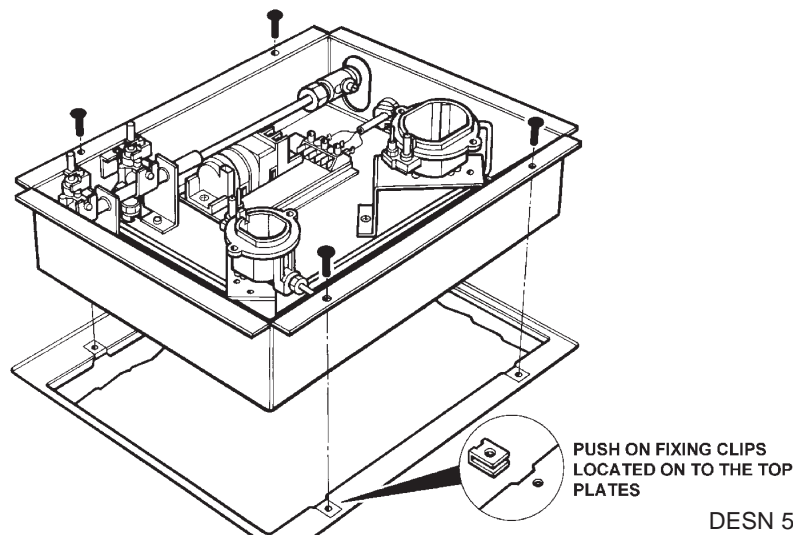

Fig. 10
- 14A. Fit 4 push on clips (supplied with hob unit) on to the slots in top plate (See Fig. 10).
16. Fix the chassis in position using the four (M5 size) screws (supplied with hob unit). (See Fig. 10).